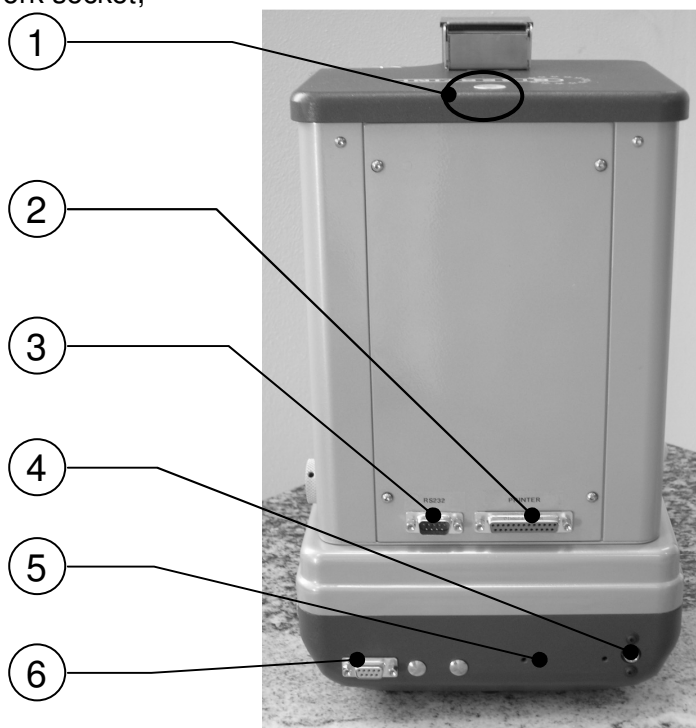

Fig. 2: Rear view
- connect the circular plug of the transformer to the connector on the Super Alcomat indicated in Fig. 2 with nr.4. Insert then the plug in the network socket;